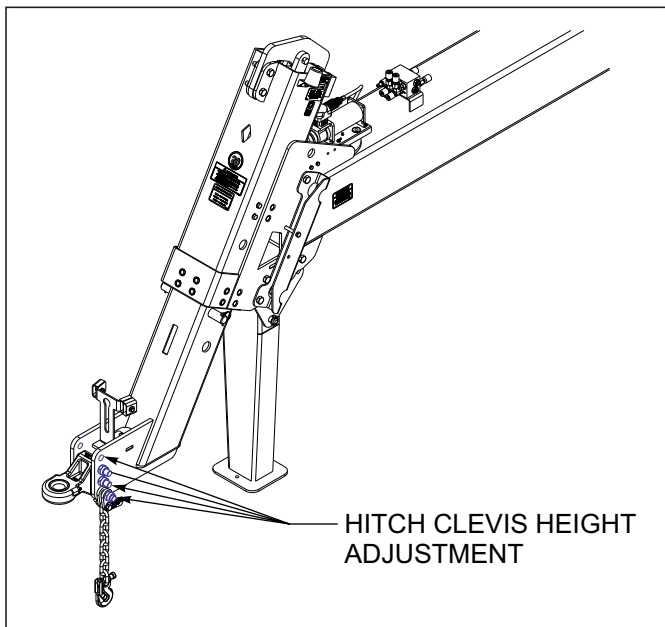

Figure 4-3: Hitch Clevis Height
1. The hitch clevis height should be adjusted to match the drawbar height of the tractor. This will allow the telescoping hitch to operate through its most efficient range and level throughout the field (*See Figure 4-3.*)
2. Make sure the hitch clevis is adjusted for the proper tractor drawbar height (*See Figure 4-3.*)